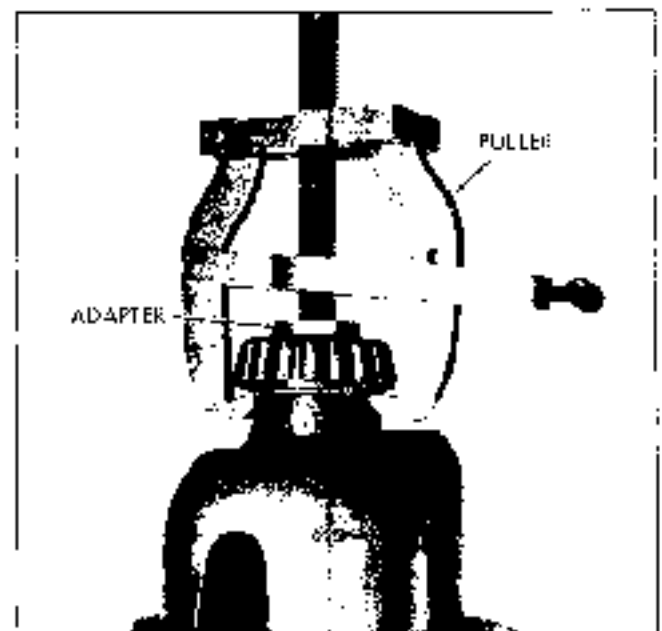

Fig. 4B-4 Removing Differential Side Bearing
6. If bearing inspection indicates that bearings should be replaced, insert differential case in vise and, using side bearing puller J 8107 and adapter J 8107-4, remove side bearing. (Fig. 4B-4)